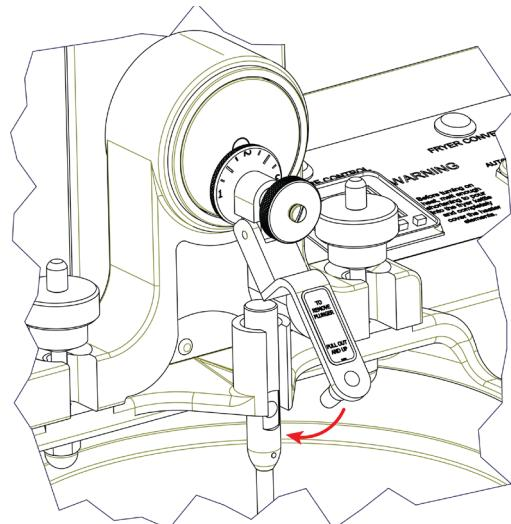

Figure 7
- a. Lower the connecting rod and insert the pin into the hole near the top of the plunger center rod. See Figure 7.